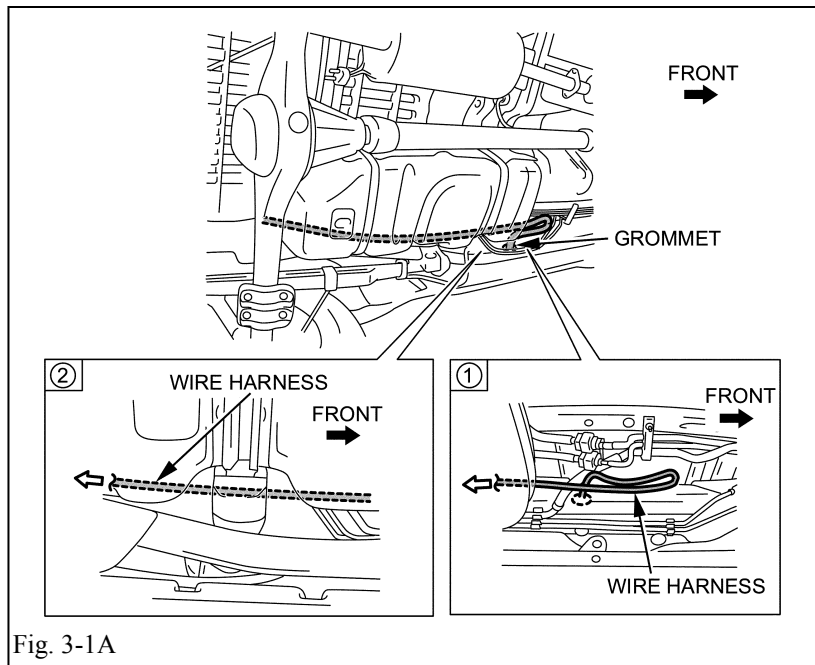

Fig. 3-1A
- (1) Route the 4-pin wire harness as shown. (Fig. 3-1A) (Fig. 3-1B)